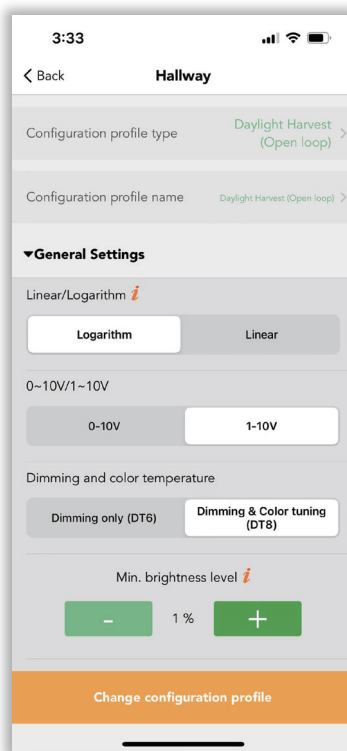
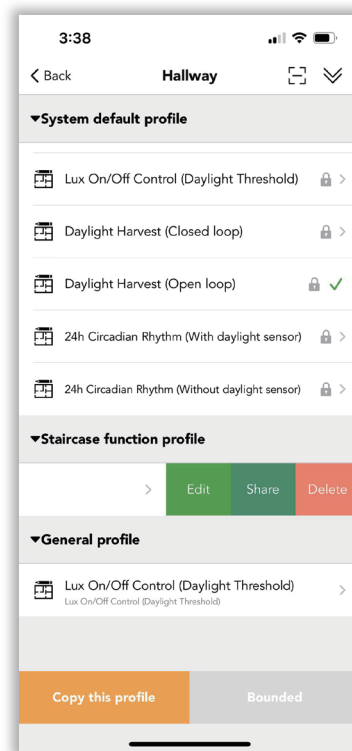

Figure 17.2 Modify profile
Figure 17.3 Change profile
1. Modify a configuration profile which enable to create a new profile or select the profile from system default setting. Before user start to configure the profile, user need to click “change configuration profile” first. Like zone Hallway (see figure 17.2). Then there is  which enable user to get a shared configuration profile via scan the QR code or key in the encrypted randomized key. There are 7 system default setting in Koolmesh app which enable user to choose according to their real application, but those profile with  means cannot edit or share and delete. For these profiles created by user can be edit/ share and delete (see figure 17.3).